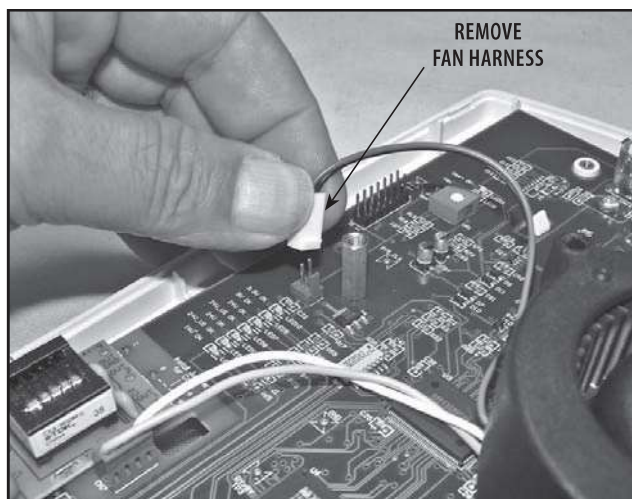

FIGURE 6.23
3. Remove the Fan Harness from the Control Board. **See Figure 6.23.**